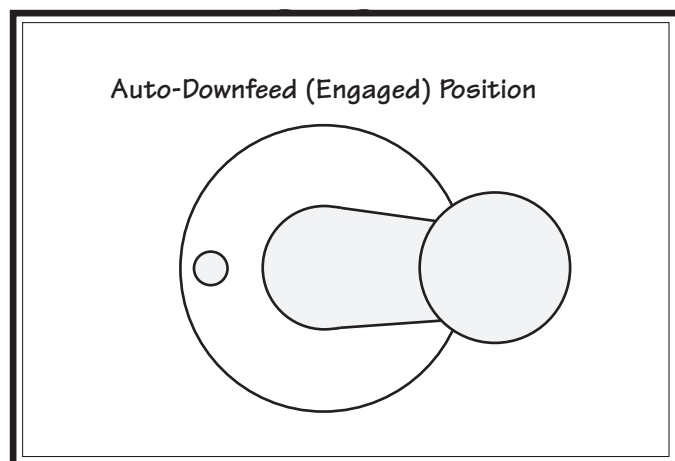

Figure 42. Downfeed selector in the auto-downfeed (engaged) position.
2. To set the mill for auto-downfeed, pull the downfeed selector knob out, then rotate the selector clockwise and seat the pin in the rear auto-downfeed (engaged) position, as illustrated in **Figure 42**.